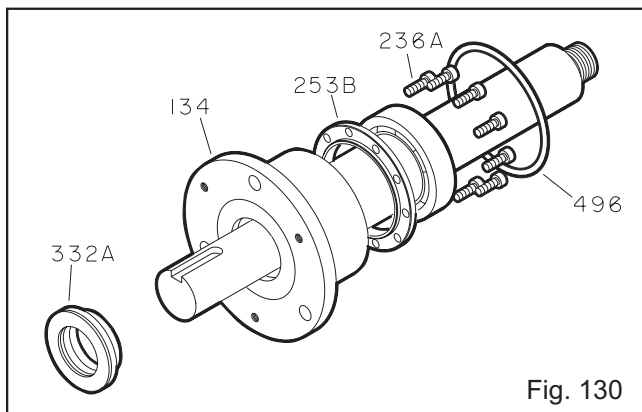

Fig. 130
10. Install clamp ring (253B) with bolts (236A). Tighten bolts in a crisscross pattern. Check shaft for free turning. Refer to *Table 9* for bolt torque values (Fig. 130).
11. Install new O-ring (496).
12. Install outboard labyrinth oil seal (332A) into bearing housing (134). It is an O-ring fit. Position the labyrinth seal drain slots at the bottom 6 o'clock position (Fig. 130).